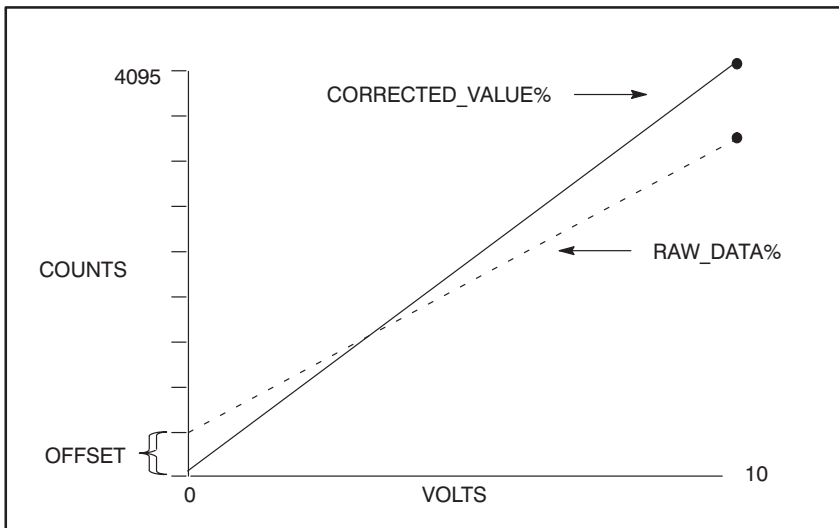

Figure 3.3 - Offset and Gain
| Figure 3.3 | - Offset and Gain | 3-3 |
Step 9. Determine offset and gain compensation. This is necessary because manufacturing tolerances on the module can result in small offset and gain differences (See figure 3.3).